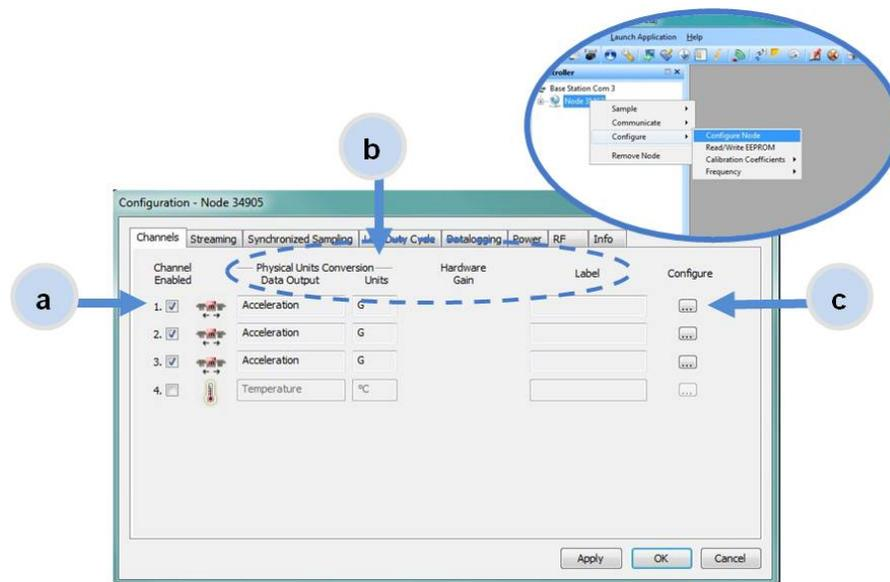

Figure 8 - Node Channels Menu
2. To enter the channel configuration menu, select the Configure button as shown in Figure 8 - Node Channels Menu. The channel configuration menu options change